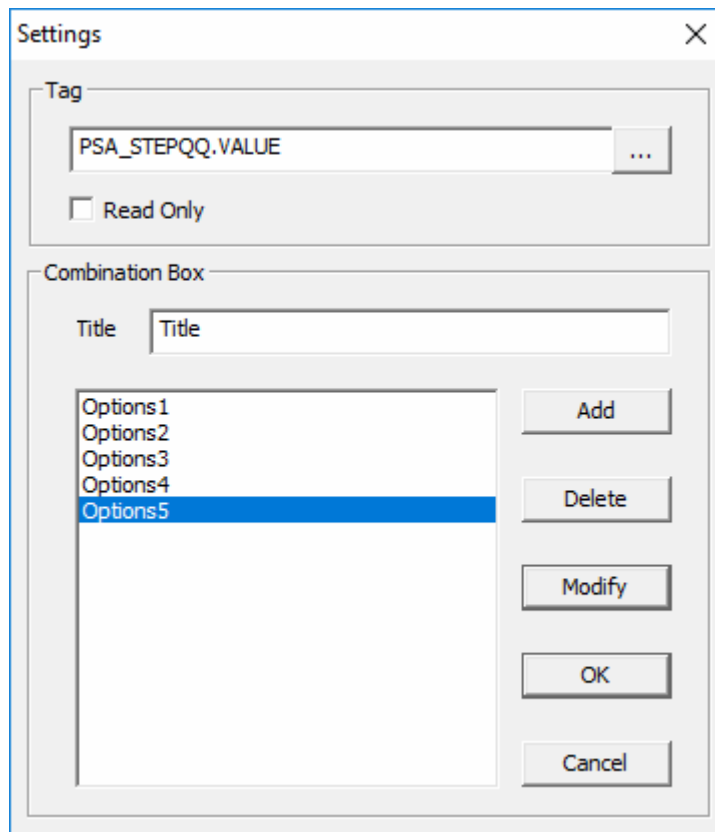

Figure 3-49 Radio Box setting
- Drawing: Select the button and click in the Drawing area, and a radio box will be drawn. User can change its size by stretching the radio box after selecting it. Double-click the radio box and a dialog box as shown in Figure 3-49 will pop up.